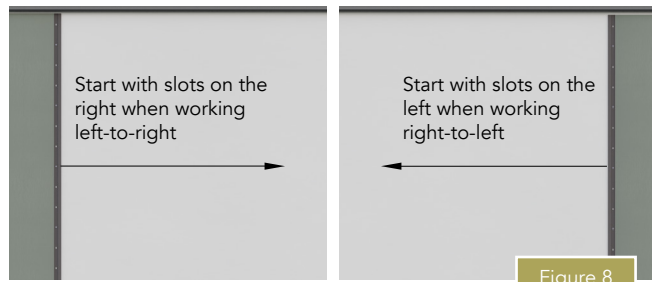

Figure 8
- Board & Batten panels can be installed in a right to left or left to right direction (Figure 8).